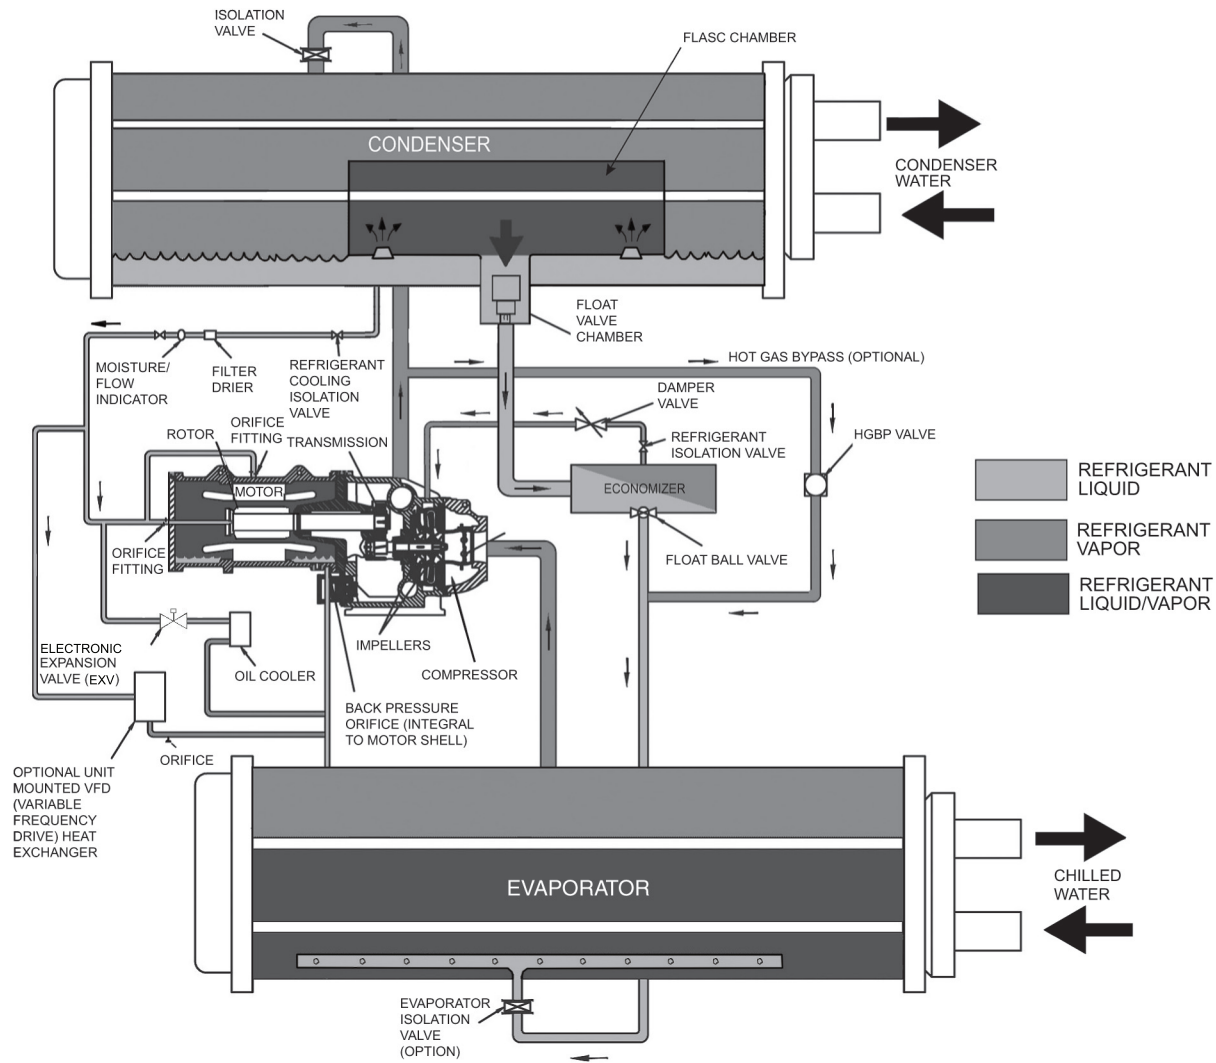

Fig. 7 — Refrigeration Cycle — 19XR(V) Two-Stage Compressor
The refrigeration cycle for a 19XR(V) chiller with two-stage compressor is similar to the one described above, with the following exception: Liquid refrigerant from the condenser FLASC chamber linear float valve or orifice plate flows into an economizer at intermediate pressure. (See Fig. 7.) As liquid enters the chamber, due to the lower pressure in the economizer, some liquid flashes into a vapor and cools the remaining liquid. The separated vapor flows to the second stage of the compressor for greater cycle efficiency. A damper valve located on the economizer line to the compressor acts as a pressure regulating device to stabilize low load, low condensing pressure operating conditions. The damper will back up gas flow and thereby raise the economizer pressure to permit proper refrigerant flow through the economizer valve during those conditions. The damper also is closed during start-up conditions to allow the second stage impeller to start unloaded.